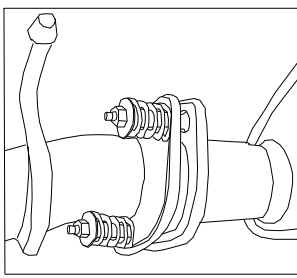

Figure 3.
3. Remove the (1) muffler from the vehicle.
On V8 models - remove and save (2) assembly bolt and spring from the flange (nut and spring are attached). Carefully remove muffler from driver's side. See figure 3